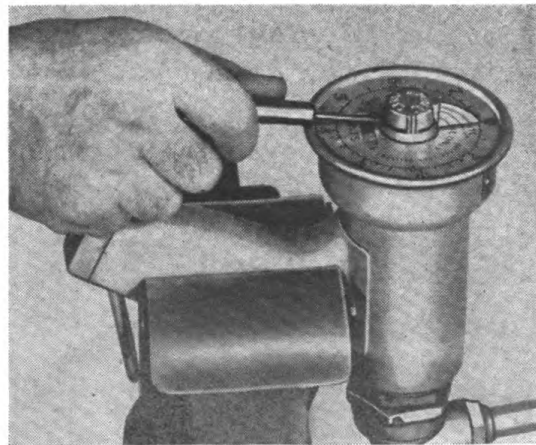

Figure 195
(1) Remove pointer set screw (See Figure 195) and pull or pry off pointer. Use extreme care to prevent loss of tiny rollers and springs.
Then press pointer all the way down and insert set screw (See Figure 195).